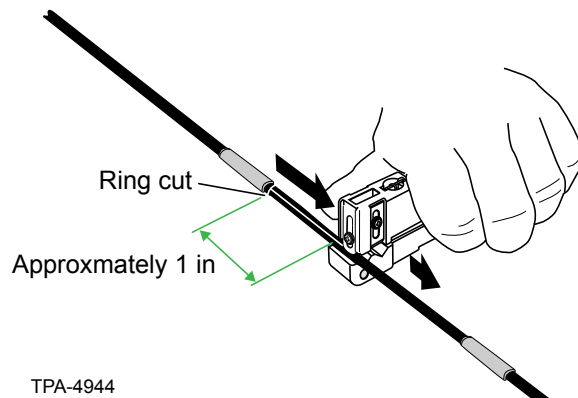

Figure 12
- Step 4:** Use the end of the Ideal tool with a rounded blade installed. Make an approximately 1-in longitudinal cut two ridges on each side (Figure 12).